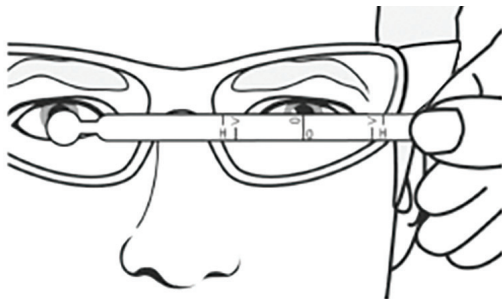

Figure 3: Horizontal Coverage
- B. Rotate the Coverage and Gap Gauge to the horizontal position and again center the “0” line approximately in the middle of the wearer’s pupil. Check the distance between the pupil and the inner edge (near the nose bridge) and the outer edge of the eyewear. The distance from the center of the pupil to the inner and outer edge of the eyewear should meet or exceed the lines on the gauge marked with an “H” (Figure 3). Include the frame in the evaluation. Record the result on the Fit Evaluation Form under the “horizontal measurement” column. Repeat with the other eye.